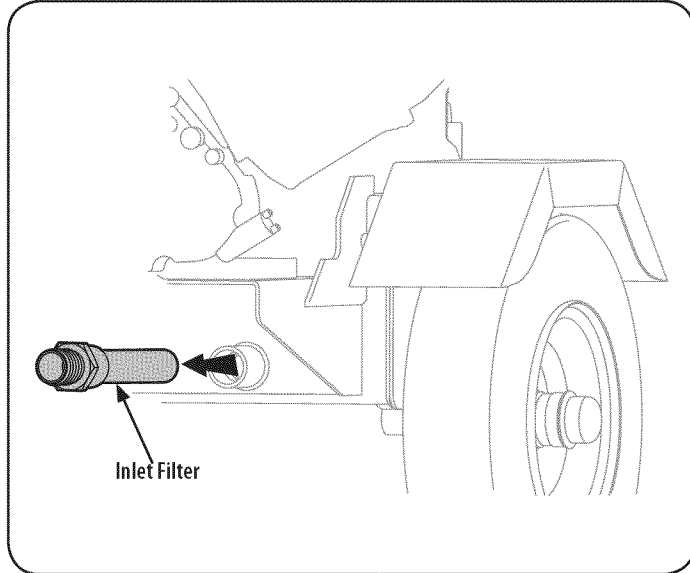

Figure 20
3. Carefully un-thread the inlet filter and clean it with penetrating oil. See Figure 20.